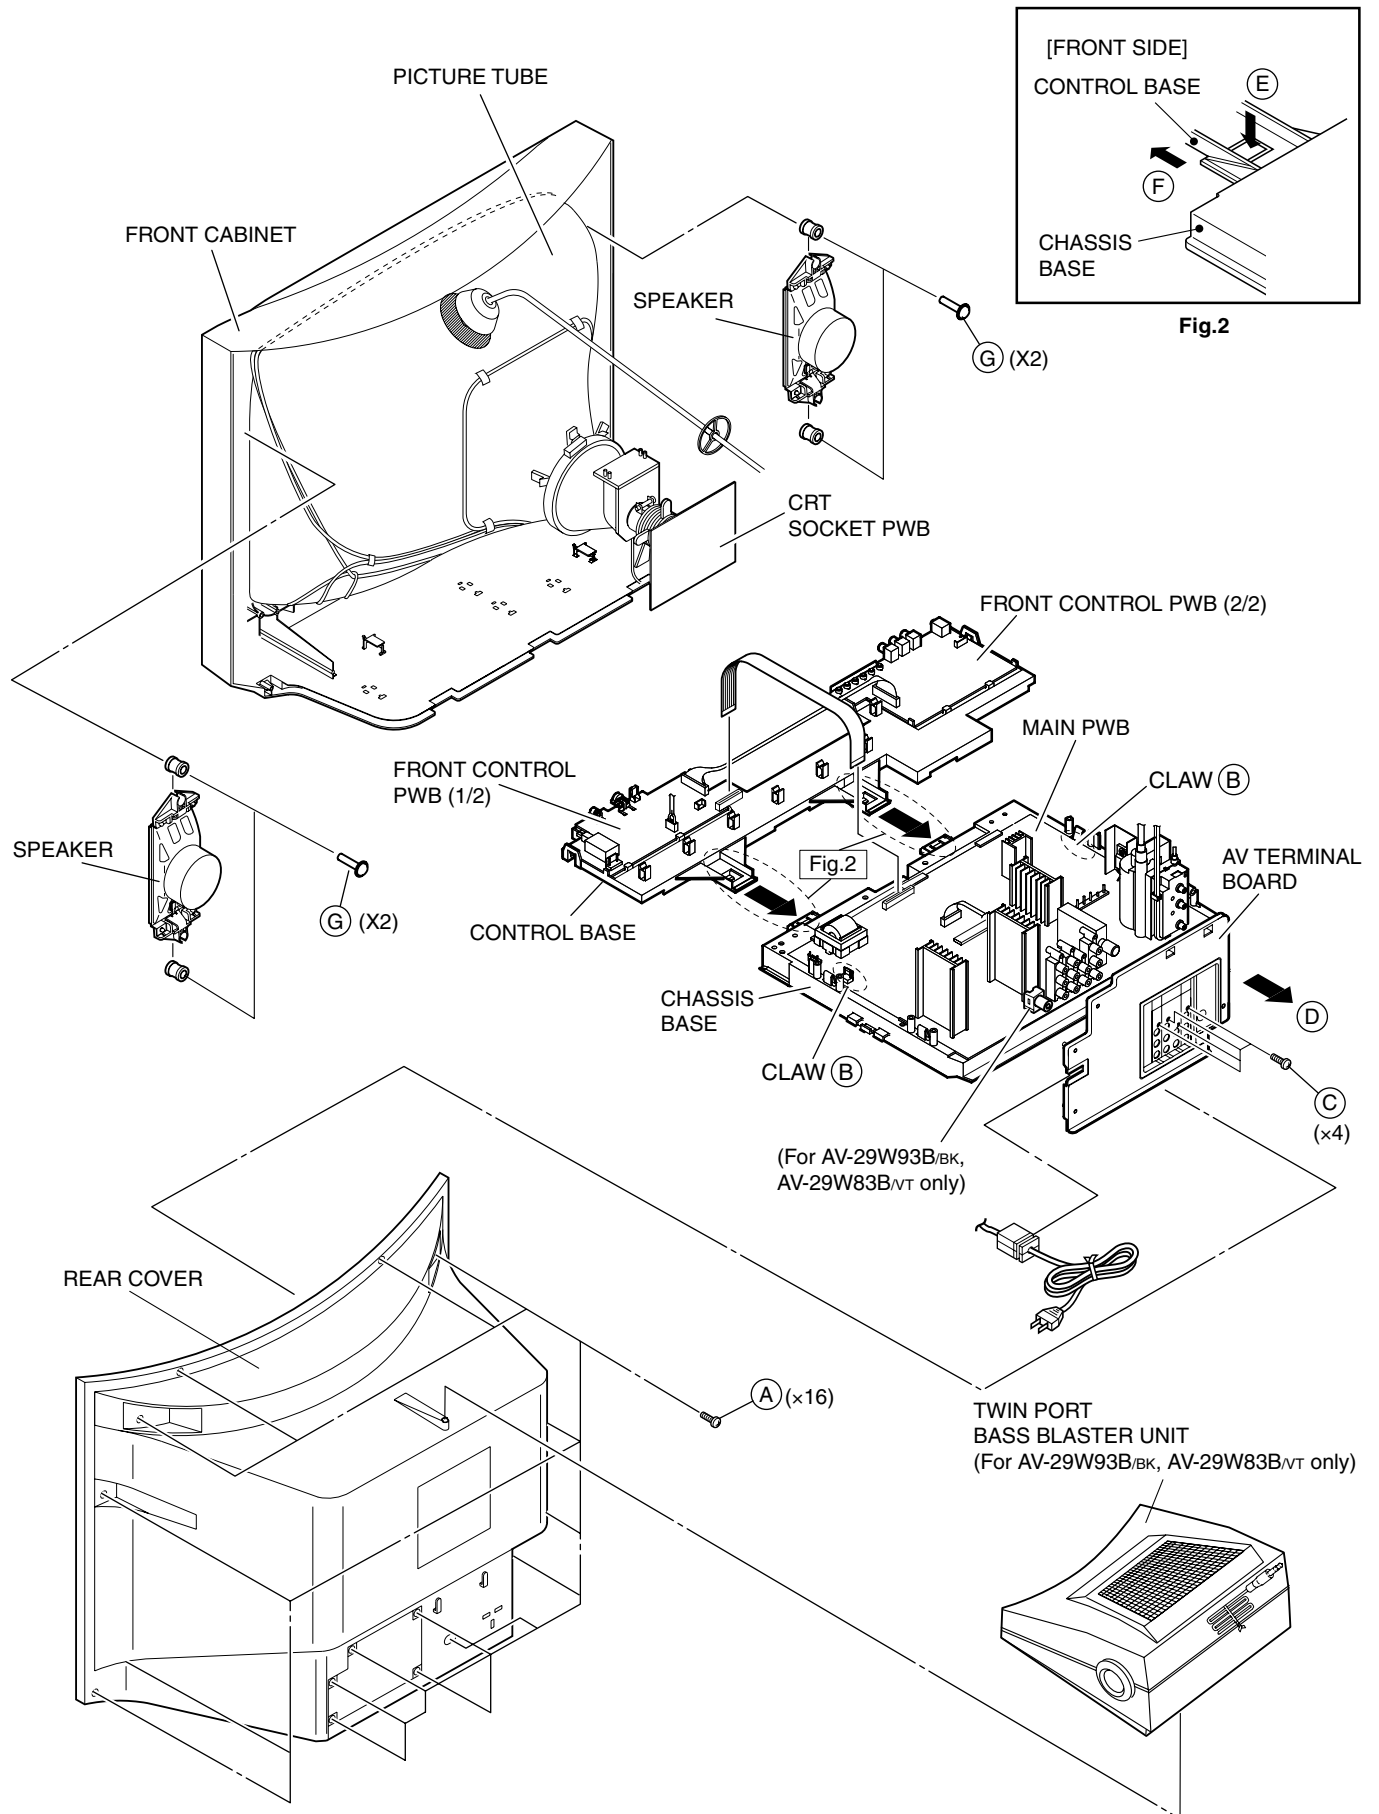

Fig.1
- 1. Remove the 4 screws marked (C) as shown in Fig.1.
- 2. When you pull out the AV Terminal board in the direction of arrow marked (D) as shown in Fig.1, it can be removed.
- 1. Remove the 2 screws marked (G) as shown in Fig.1.